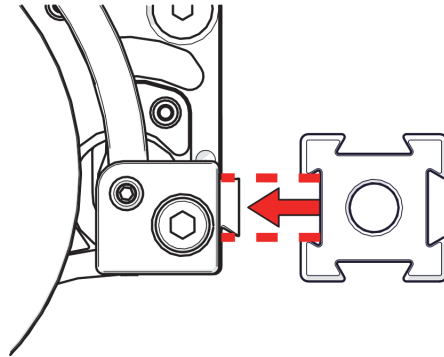

Figure 2-7 Mount frame bar
6. Press the frame bar or accessory to the swivel mount (see Figure 2-7 on page 54) and tighten the black wing knobs.